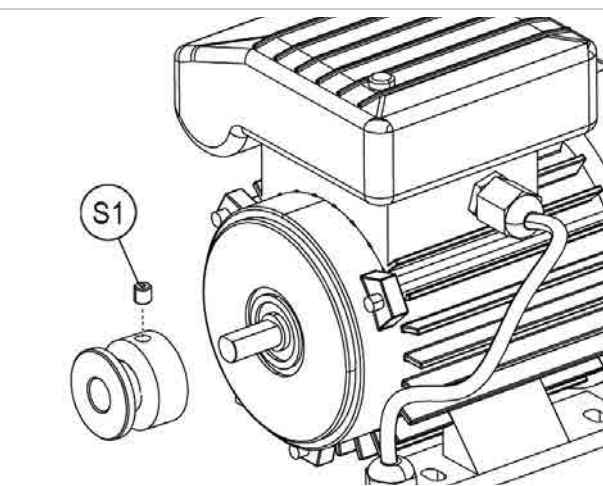

Fig.42
- 9) Loosen the grub screw (S1) and remove the drive pulley (Fig.42).